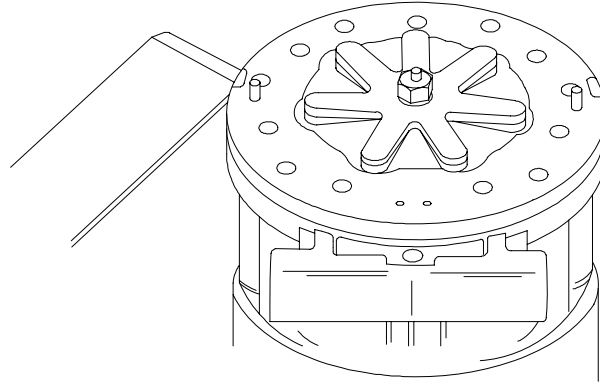

Figure 24 Valve Plate Gasket Removal
- 51. Valve Plate Removal.** To remove the compressor valve plate, proceed as follows (refer Figure 24):